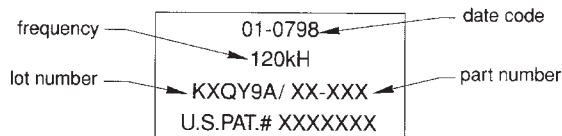

Figure 1. Sample vinyl tag
The information needed to order a replacement sensor is printed on the vinyl tag affixed to the cable near the connector end. Do not abrade the marking or remove this tag. When ordering, specify the frequency, date code, and part number (see Figure 1).
- **Single drive boats** — Mount on the side of the boat where the propeller is rotating downward at least 75mm (3”) beyond the swing radius of the propeller (see Figure 1)